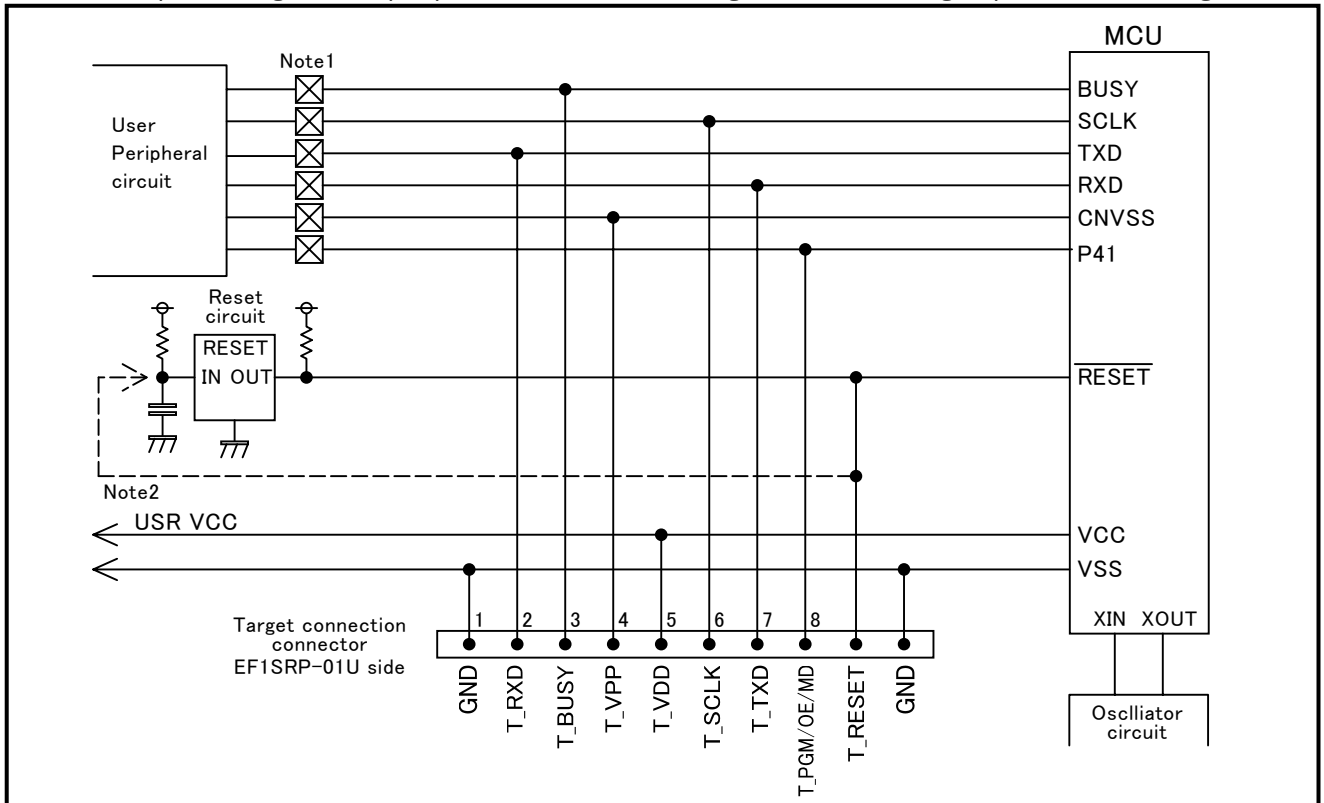

Fig. 4.1: Target MCU Peripheral Circuit Example
(1) An example of target MCU peripheral circuit when using the 3850/3851 groups is shown in Fig. 4.1.